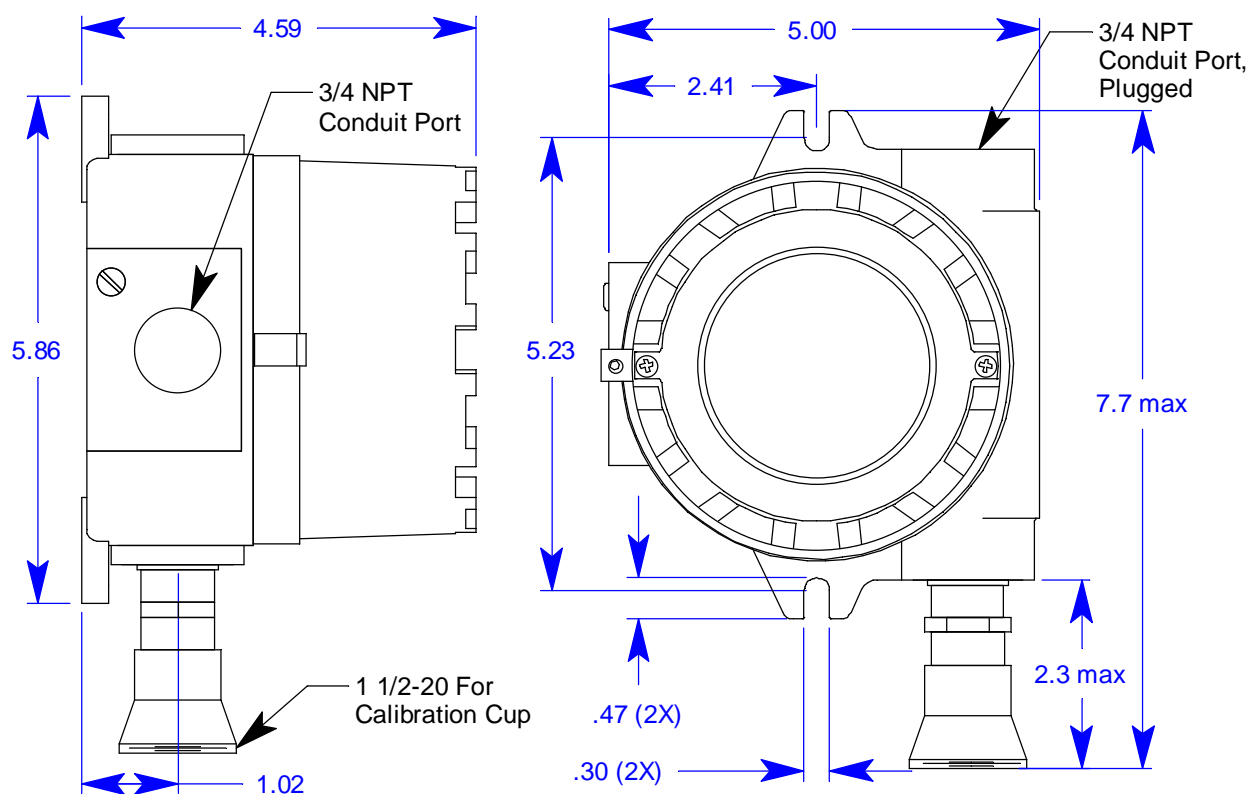
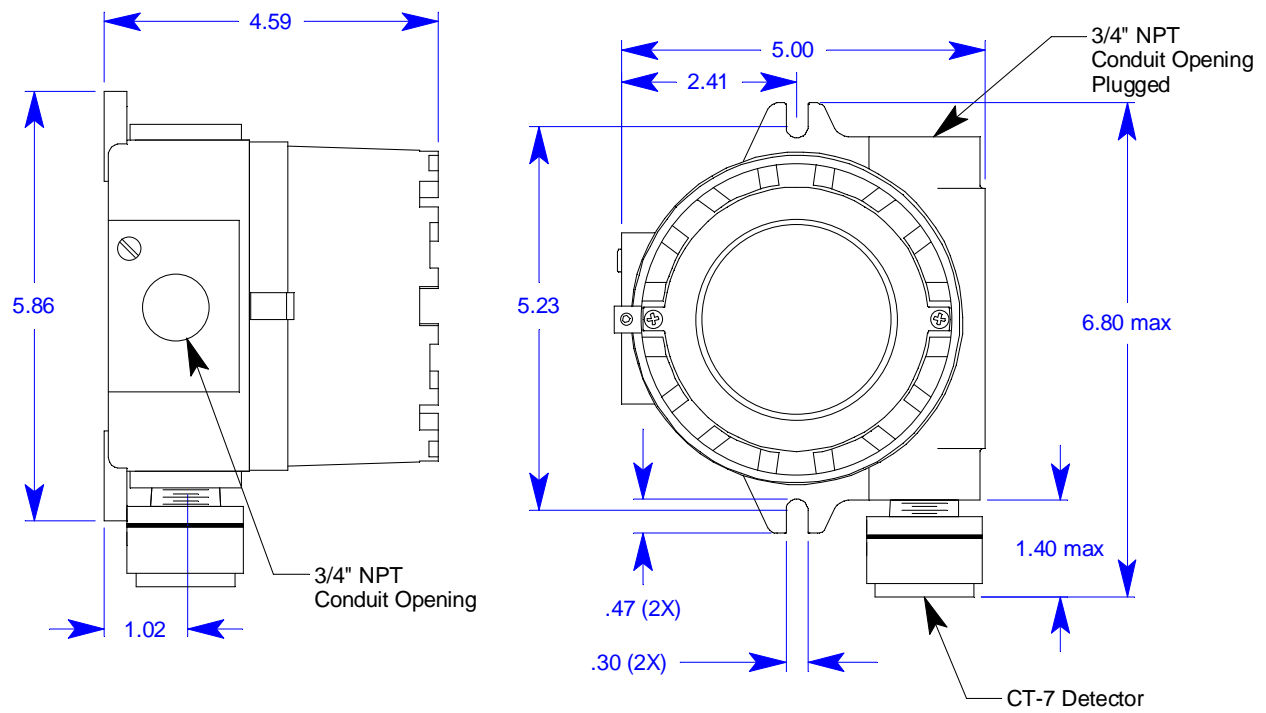

Figure 13: Outline & Mounting Dimensions, Catalytic LEL and ppm, UL Version
Figure 20: Outline & Mounting Dimensions, CT-7 Series
2. At the monitoring site, use #10 screws through the junction box's two mounting holes to secure the junction box to a vertical surface. Figure 13 - Figure 20 show the outline and mounting dimensions for each version of the M2A. Mount the M2A with the detector facing down as shown in the following figures.